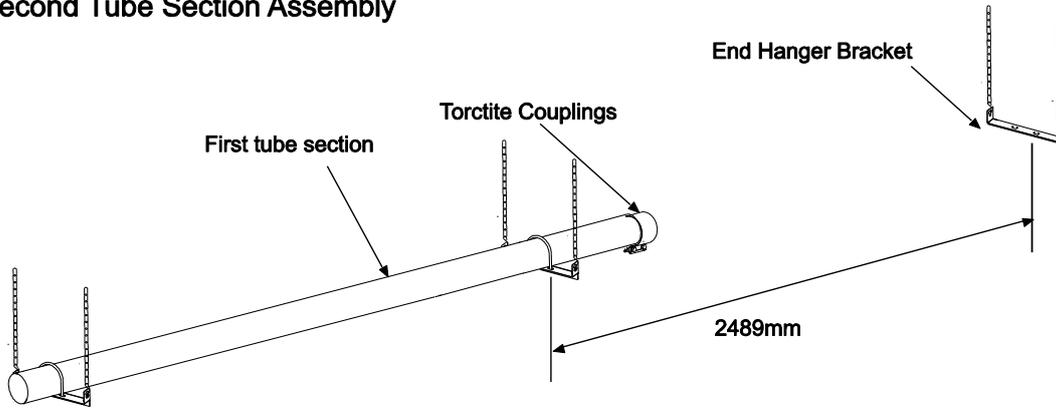

Fig. 22a
5. Suspend the hanger brackets for the remaining section of tube, raise the tubes into position and join the tube sections together using Torctite couplings as described in Section 10.2 "Tube Coupling Details". Fasten the tubes to the hanger bracket. See figures 22a, 22b and 22c for details of the assembly sequence and hanger bracket attachment method. Refer to section 8.0 for the dimensions of the hanger bracket spacing.